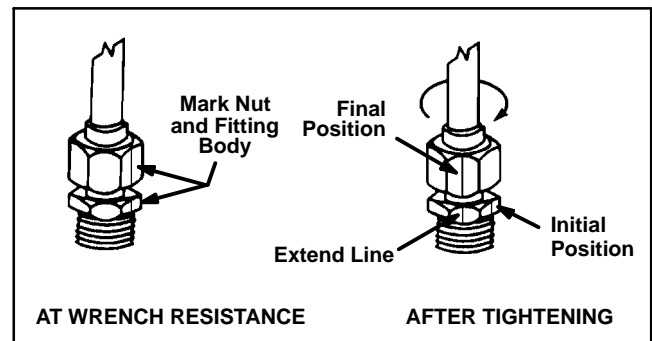

Figure 2
5. If a torque wrench is not available or if space at the swivel nut prevents use of a torque wrench, an alternate method of assembly is the Flats From Wrench Resistance (F.F.W.R.) method (Fig. 2).